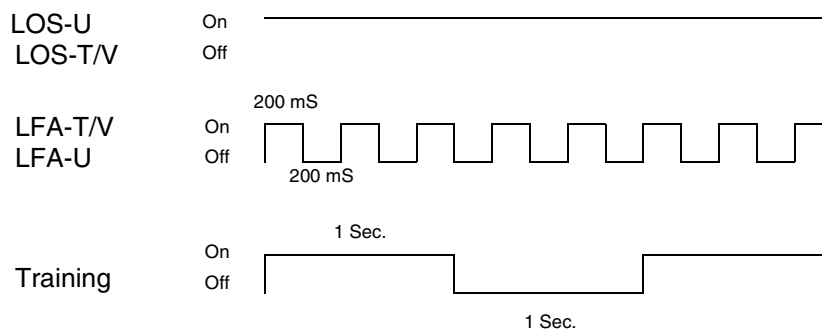

Fig. 2.145 Visual signalling LOS/LFA/Training of the QSTU
1) Visual signalling according to Fig. 2.145